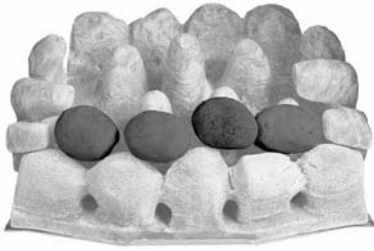

Fig. 29
5. Pick out the smallest two pebbles and lay to one side, lay the first row of four loose pebbles on top of the front coal. Ensure the back of the pebbles are resting on the fuel bed and there are even gaps all round (Fig. 29).